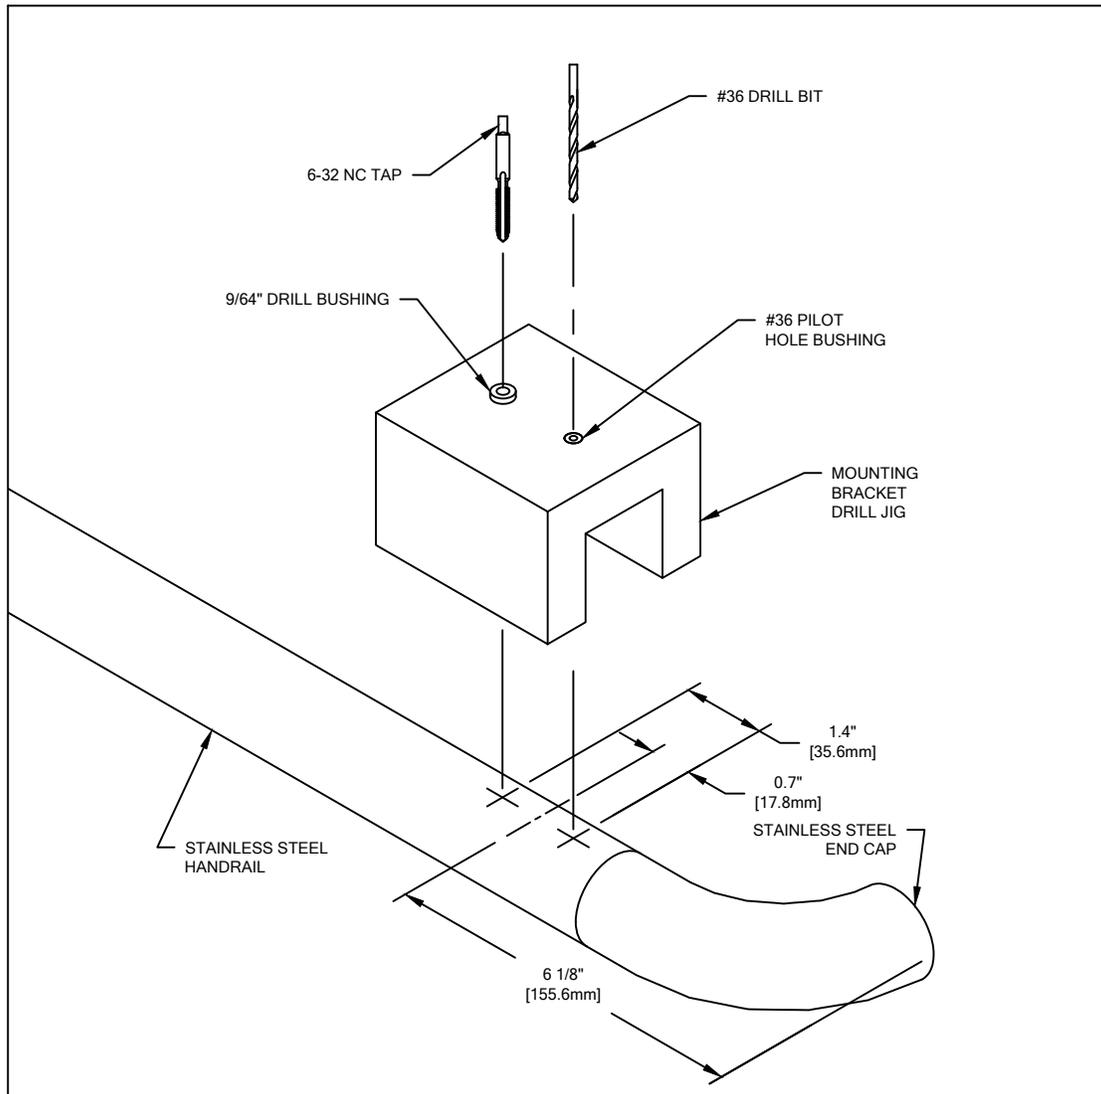

FIGURE 2.
- DRILL PILOT HOLES IN BOTTOM SURFACE OF STAINLESS STEEL HANDRAIL AS PER MOUNTING BRACKET DRILL JIG INSTRUCTIONS (SEE FIGURE 2). CAUTION: BE SURE THE HANDRAIL DOES NOT ROTATE WHEN DRILLING PILOT HOLE.
9. FASTEN THE STAINLESS STEEL HANDRAIL TO THE WALL BRACKETS IN SUCCESSION BY INSERTING TWO (2) #6-32 X 3/4" S/S PHILLIPS FLAT HEAD MACHINE SCREWS THROUGH THE UNDERSIDE OF THE BRACKET INTO THE STAINLESS STEEL HANDRAIL.
MOUNTING BRACKET DRILL JIG INSTRUCTIONS. REFER TO FIGURE 2.